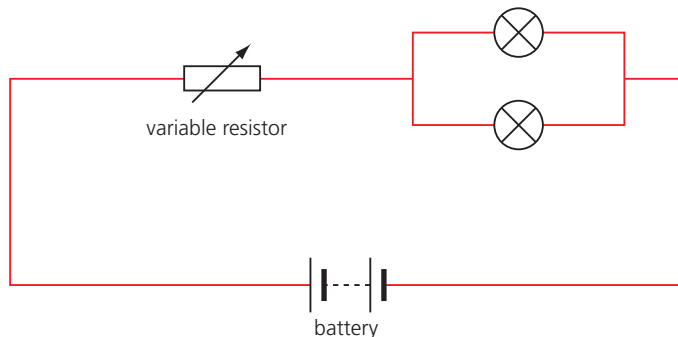

FIGURE 2.6.18c: A series-parallel circuit
Most circuits are combinations of series and parallel circuits. These are called **series-parallel circuits**. Figure 2.6.18c shows an example.
5. Describe the path of the current in the series-parallel circuit in Figure 2.6.18c.